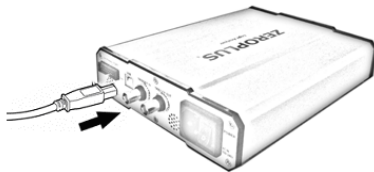

Fig. 2-4
Hardware Installation simply involves in connecting the Logic Analyzer to your computer with the included USB Cable as shown in Figures 2-4 and 2-5.
4. Plug the square end of the USB cable into the Logic Analyzer (Fig. 2-4).